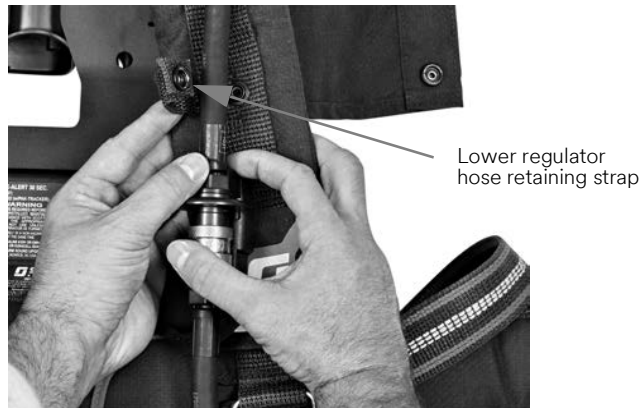

Figure 2-5 Unsnapping the regulator hose retaining strap
- 6 Unsnap the 2 regulator hose retaining straps. See Figure 2-5.